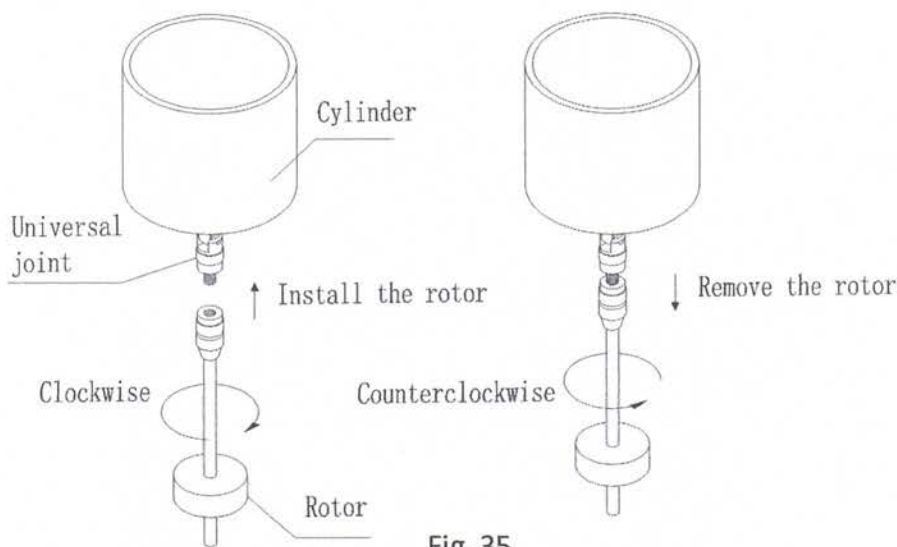

Fig. 35
4. The rotor shall be carefully mounted or removed by lifting the universal joint up gently. The rotor cannot be forced under any horizontal stress or pulled down, otherwise the shaft will be damaged. Because the rotor and the universal joint are connected in left thread, rotor attaching or detaching must be performed in the correct the rotating direction (Fig. 35), or the universal joint will be damaged.